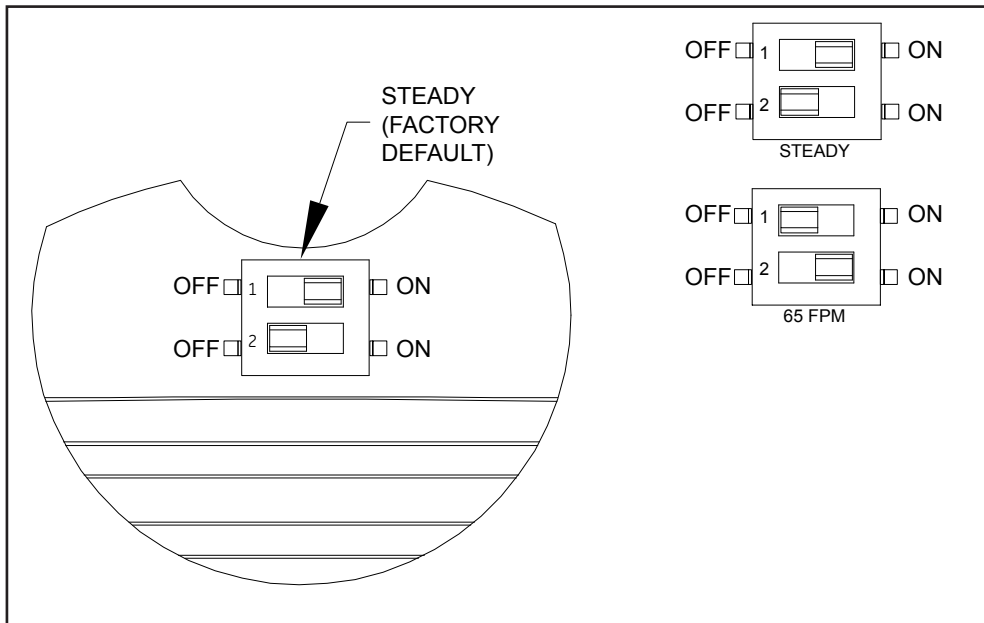

Figure 6. Dipswitch Settings
5. Continue to disassemble until the internal dipswitch on the top circuit is reached or the component to be replaced is located. To change the flash pattern, set the dipswitch as illustrated in Figure 6. To replace the pulsating horn, follow instructions shown below.